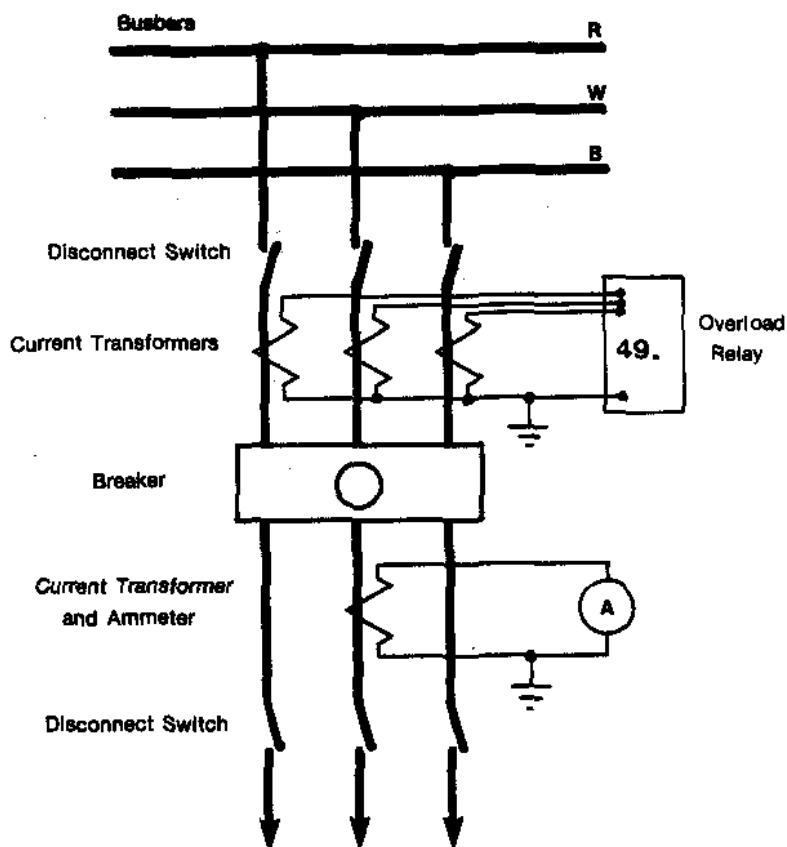

Figure 2: Load Controlled by an Oil (or Air Blast) Circuit Breaker.
4.1.2 Circuit Controlled by an Oil or Air Blast Circuit Breaker. Figure 2 shows a typical circuit controlled by an oil or air blast breaker. The circuit contains the following features: